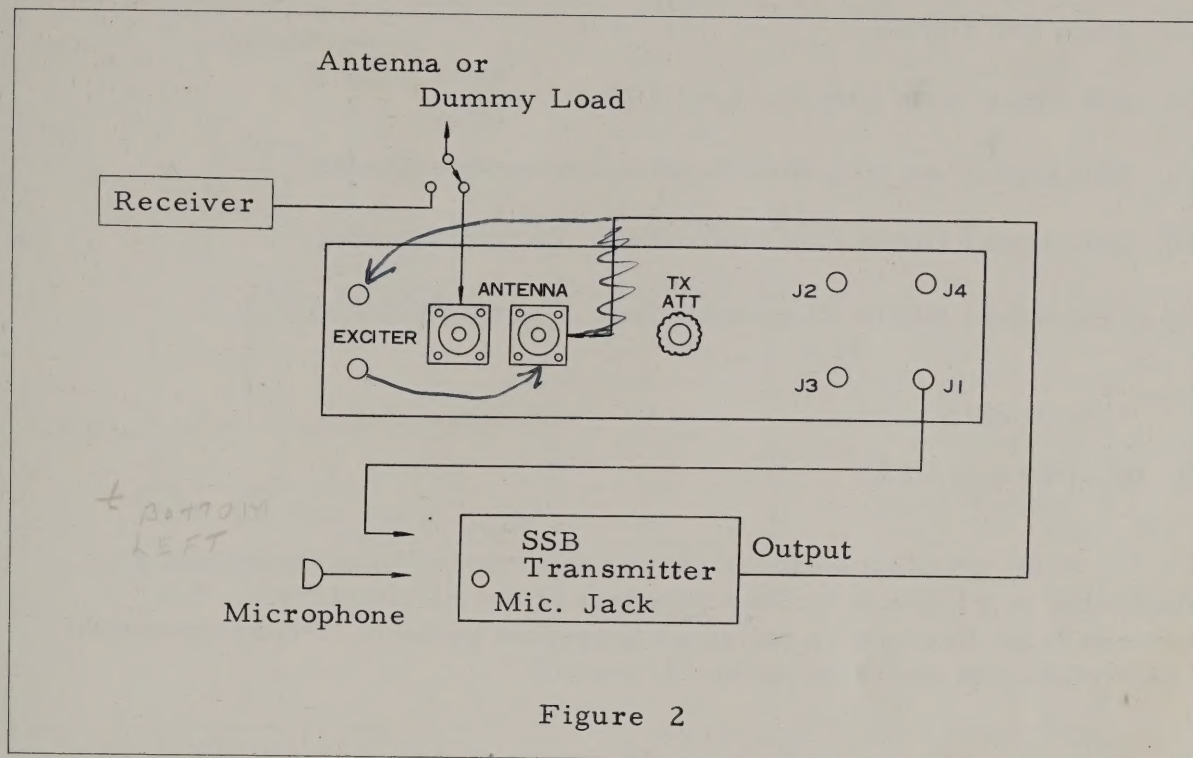

Figure 2
- (1) Connect the RF output of the transmitter (transceiver) or linear amplifier to either coaxial connector marked ANTENNA on the rear of the monitorscope as illustrated in Figure 2. Connect the dummy load or antenna to the other coaxial connector marked ANTENNA.
- (2) Set the TX ATT (Transmitter Attenuator) switch fully clockwise for a minimum coupling.
- (3) Push the POWER switch of the monitorscope and adjust the controls as described in the initial adjustment procedure.
- (4) Turn on the transmitter and adjust the TX ATT, H. GAIN and SWEEP FREQ controls for the desired pattern display.
- (5) Internal tone generator signal may be used for SSB or AM transmitter with the shielded cable. Use either of 1500 KHz and 1900 KHz for signal tone test. In SSB transmission, press down both 1500 KHz and 1900 KHz push buttons for two tone test.
- (6) Refer to the patterns on page 7 for the evaluation of the transmitted signal.
The followings are typical transmitted signal patterns displayed on the monitorscope screen when it is connected as Figure 2.